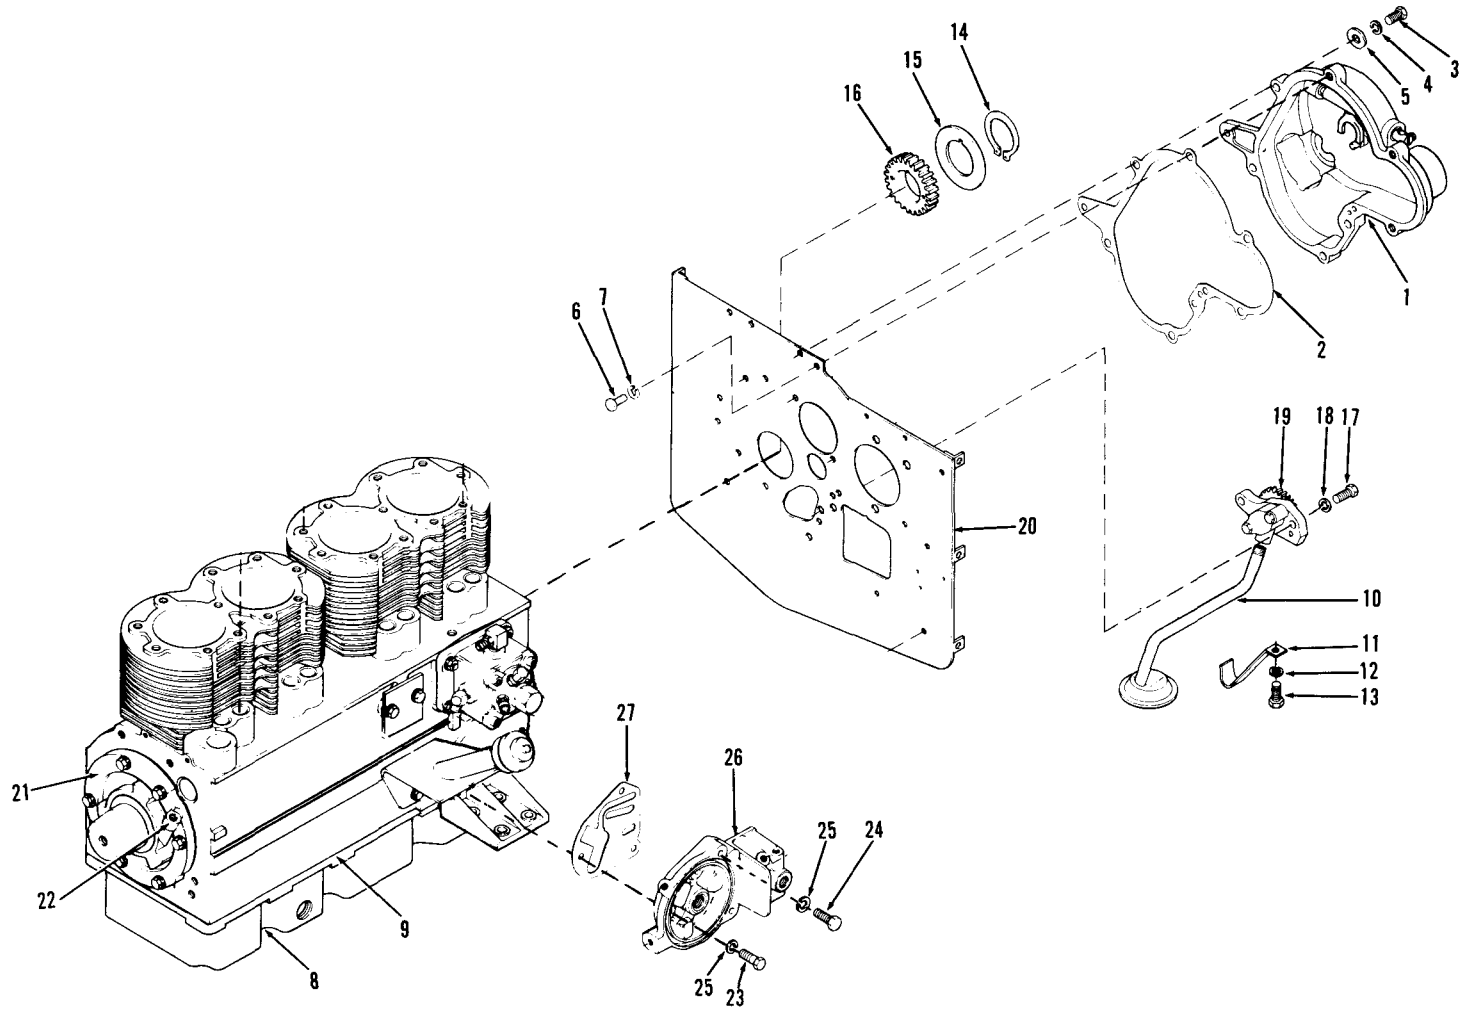

Figure 7-19. Oil Pump Removal (Sheet 1 of 2)
(1) Clean all gasket material from oil filter adapter (26, figure 7-19) and cylinder block. Attach oil filter adapter (26) and new gasket (27) to cylinder block with screws (23 and 24) and lockwashers (25).
(2) Refer to the Operator and Organizational Maintenance Manual and install the low oil pressure switch, oil filter and oil lines on the oil filter adapter.